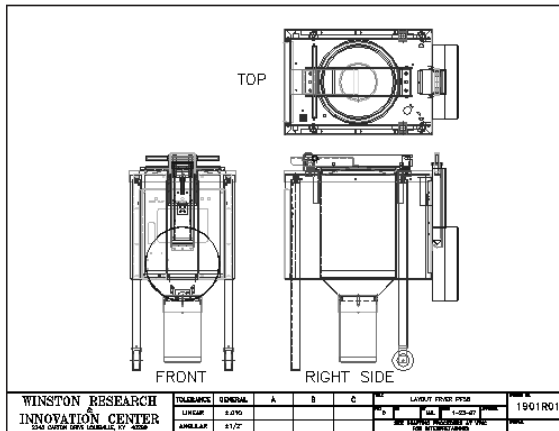

Figure 11-17: This drawing has 44 layers.
2. Save the file as *ab11-03.dwg* in your *AutoCAD Bible* folder. This drawing is shown in Figure 11-17.